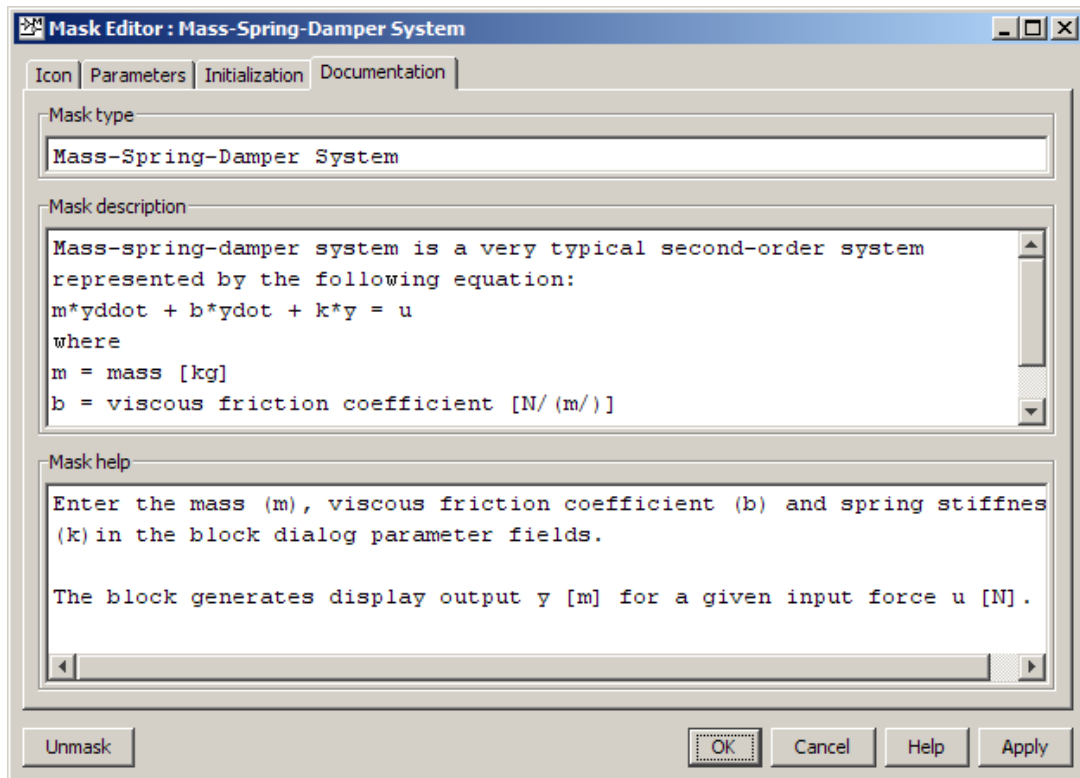

Figure 14 Documentation tab
- Documentation tab: see **Fig. 14**.